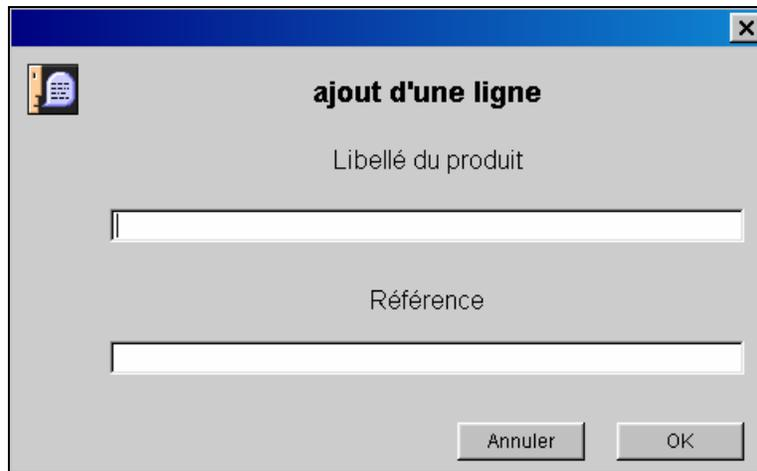

Figure 2: Enter the part name and number
- Click on the **Add** button in the Current Part Numbers window. A dialogue box appears (figure 2).